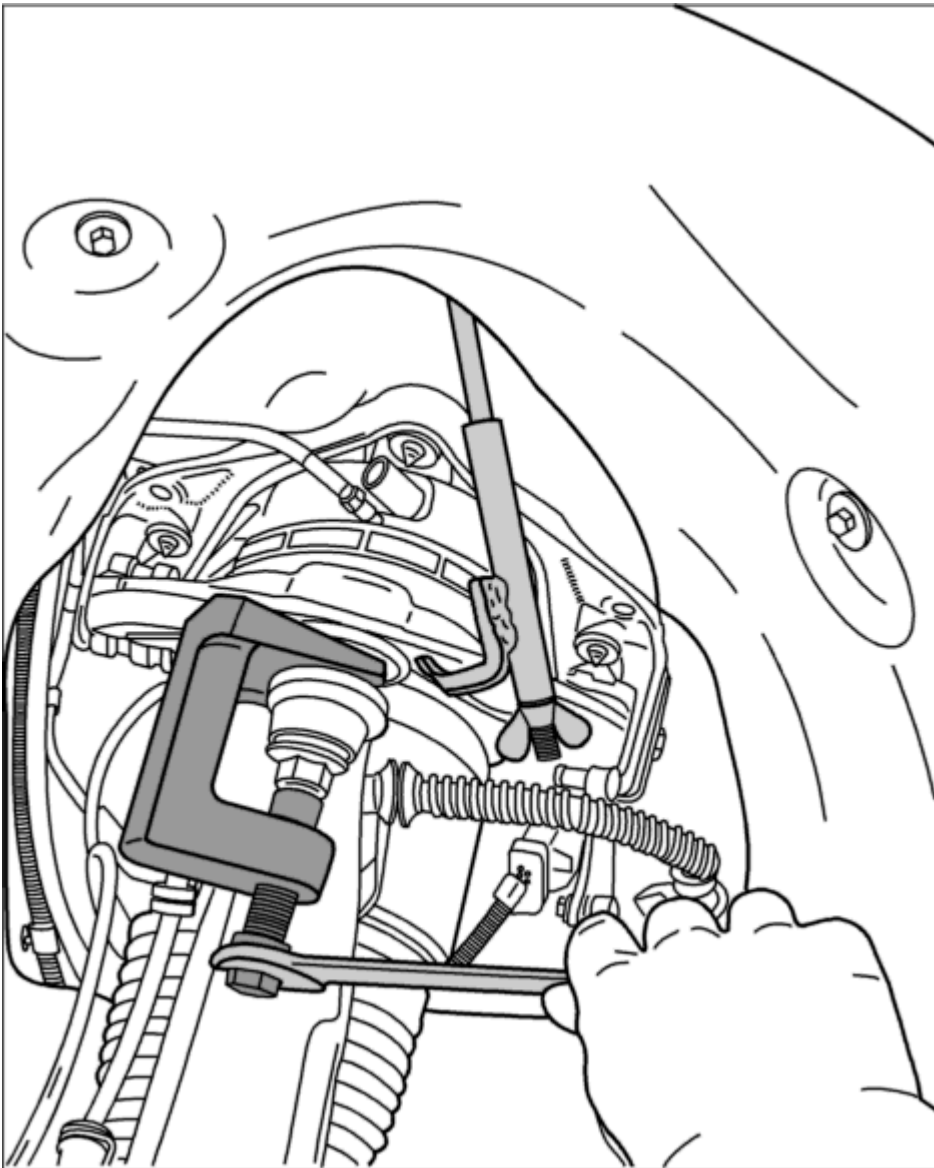

Fig. 91: Pressing out ball joint of upper trailing arm
14. Press out ball joint of upper trailing arm from wheel carrier using **press-out tool T10187**. See **Fig. 91**.